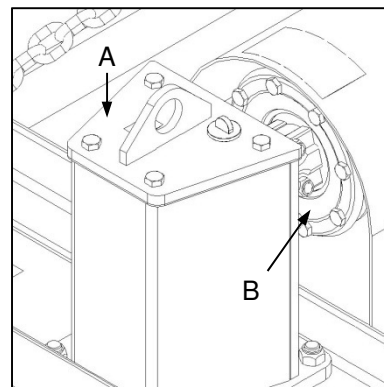

Fig. 5
- ✔ Discoloration or blistering of painted surfaces of the friction clutch housing (Fig. 5-B).
- ✔ The friction clutch housing feels significantly hotter than the surface of the gearbox casing (Fig. 5-A).
- ✔ Verkleuring of blaasvorming van geverfde oppervlakke van die wrywingkoppelaarmhulsel (Fig. 5-B).
- ✔ Die wrywingkoppelaarmhulsel voel beduidend warmer as die ratkasomhulsel (Fig. 5-A).